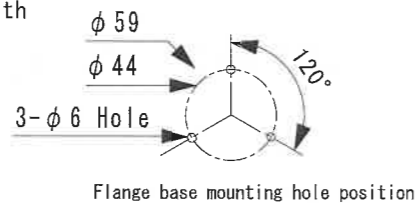
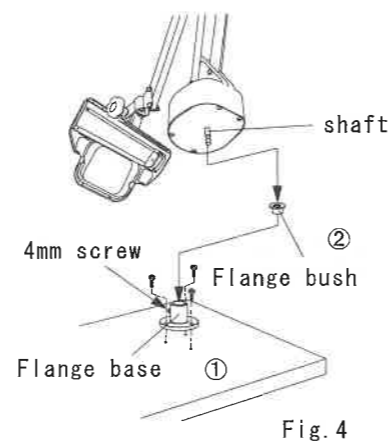

Fig. 3
Fig. 4
- Fix the flange base to the workbench or jig with three screws and bolts. (Fig.3 and Fig.4)
- Insert the flange bush into the hole of the flange base and insert the shaft from below the main body. When it stops, fix it securely with the 4mm screw set on the flange base. (Fig.4)